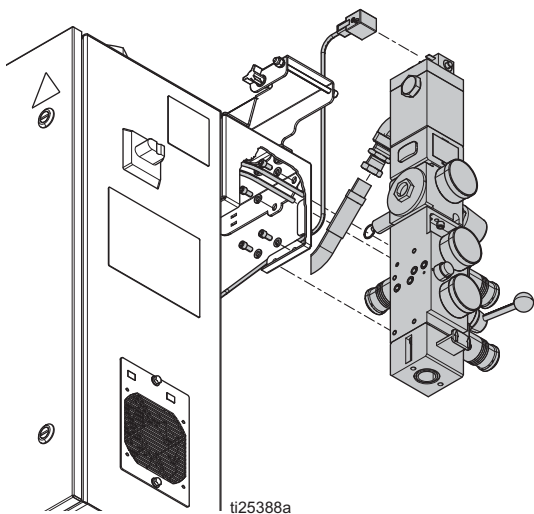

FIG. 1: Air Control Removal
3. Remove the four screws and washers as shown in Figure 1.